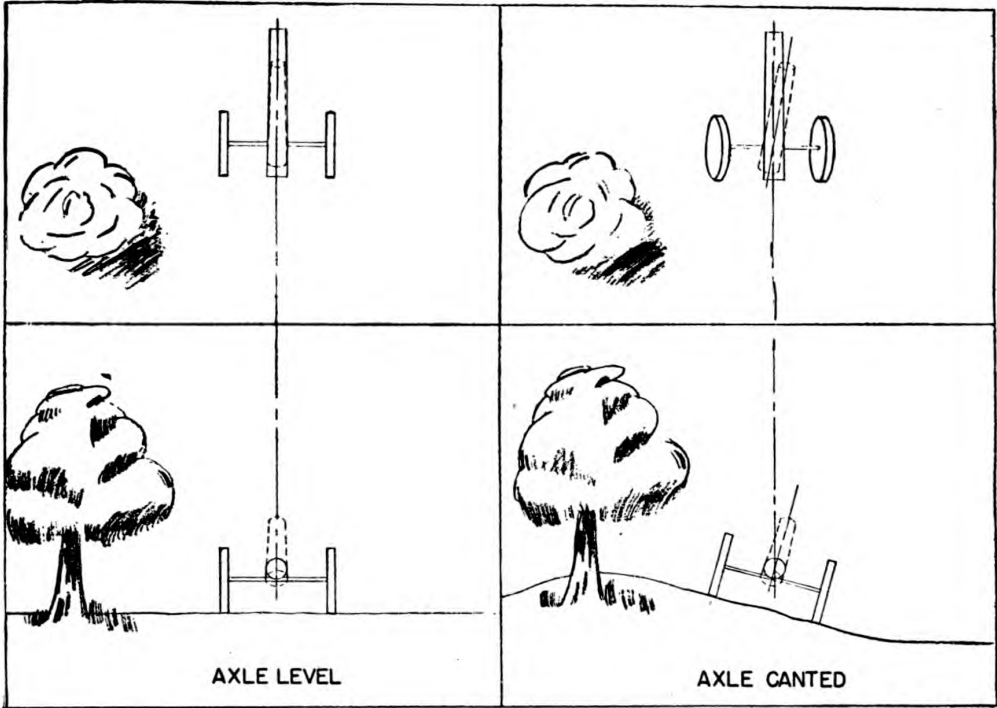

FIGURE 6.—Change in azimuth due to axle cant.
(1) When the gun is elevated with its trunnions canted as shown in figure 6②, there is an accompanying deflection of the line of fire or deviation in azimuth.